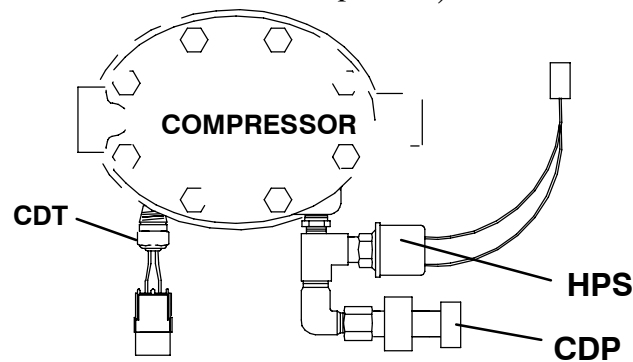

Figure 8-16. Pressure Switch and Sensor
- f. Disconnect wiring to unloader valve assemblies, Compressor Discharge Temperature Sensor (CDT), Compressor Discharge Pressure Transducer (CDP), Compressor Suction Pressure Transducer (CSP) and the wiring to the high pressure cutout switch (HPS). Identify wiring and switches if necessary. (See Figure 8-16)
- n. Remove the complete High Pressure Switch assembly (HPS) (See Figure 8-16) and install on new compressor after checking switch settings. Remove Compressor Discharge Temperature Sensor (CDT), Compressor Discharge Pressure Transducer (CDP), and Compressor Suction Pressure Transducer (CSP) and install on new compressor. Install compressor frame to new compressor (if removed with defective compressor).